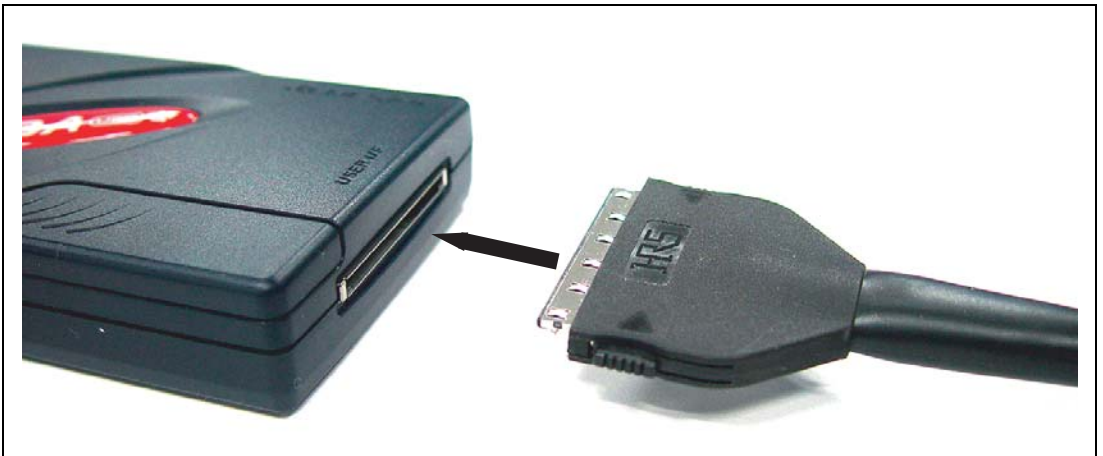

Figure 2.2 Connecting the E10A-USB Emulator to the User System Interface Cable
1. Connect the user system interface cable (14 or 36 pins) provided with the E10A-USB emulator to the side connector of the E10A-USB emulator as shown in figure 2.2.